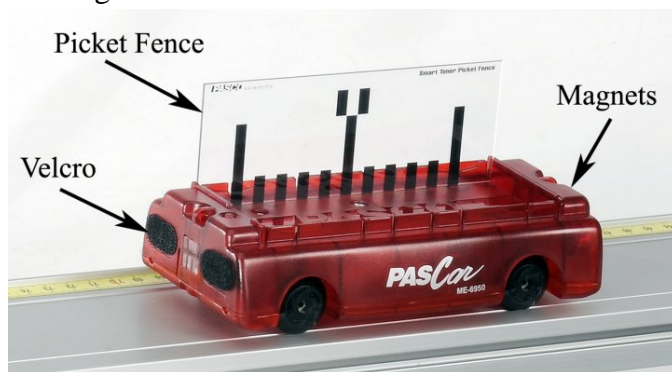

Figure 4: Cart with Double-Flag on Top
4. Place the PAScar on the track (including Picket Fence), making sure that the end of the car with the Velcro is on the upper end (see Fig. 4). This insures that the magnets in the PAScar and the magnets in the upper fixed End Stop do not interact.